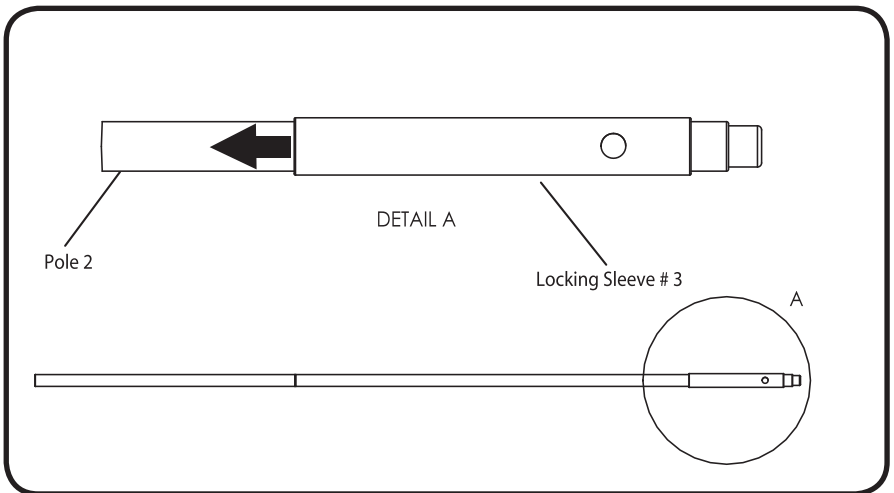

Figure 8
8. Slide Locking Sleeve #3 over the end of pole #2 (at the cockpit position), making sure the hole for the snap button is facing the free end of pole #2. **See Figure 8.**